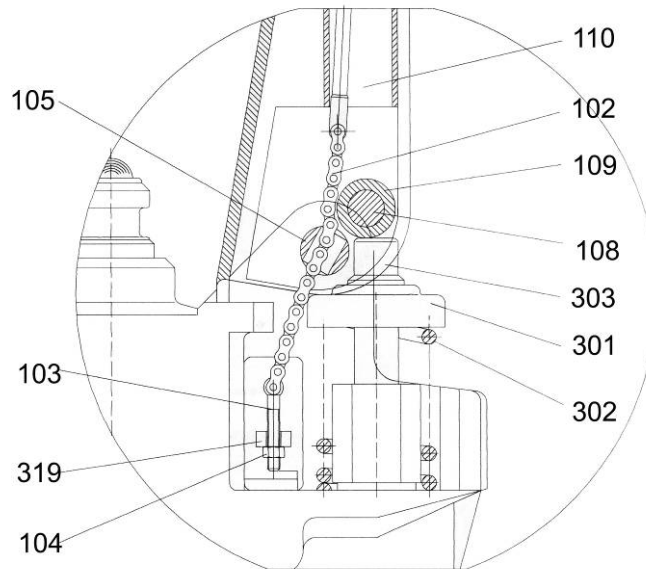

Fig. 3
2.2 Let control handle(117) to the '**LOWER**' position, then pass the adjusting nut(104), adjusting bolt(103) and chain(102) through the hole of axle(105) with your hand (See fig. 3).